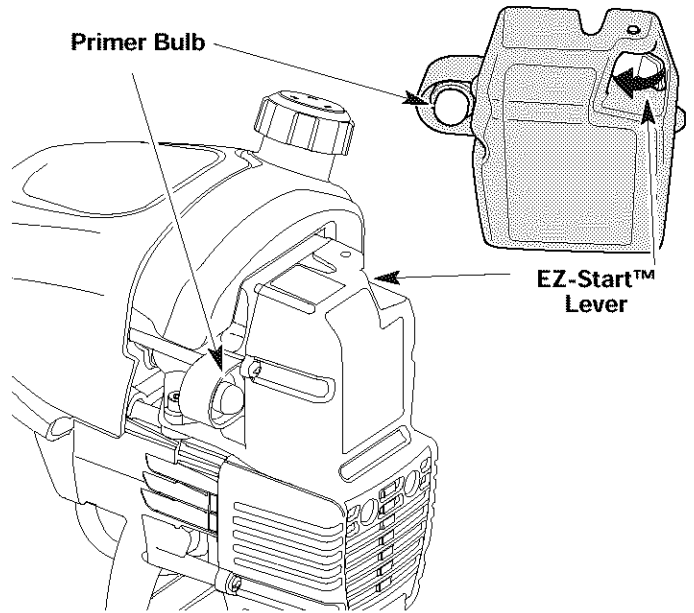

Fig. 17
3. Fully press and release primer bulb slowly 5 to 7 times. Fuel should be visible in the bulb (Fig. 17). If fuel is not visible, press three (3) more times, or until it is.
4. Push the EZ-Start™ Lever to the left until it clicks and locks into place. (Fig. 17).
6. Squeeze the throttle control to warm up engine for 5 to 10 seconds. Ez-Start™ Lever will click off automatically (Fig. 17).